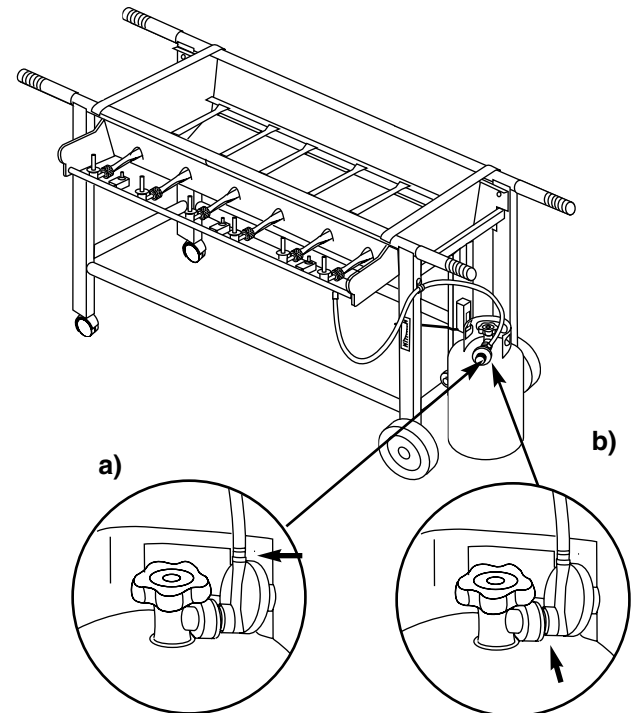

Figure 28
- Hose to regulator connection. Figure 28 (a).
- Regulator to tank connection. Figure 28 (b).